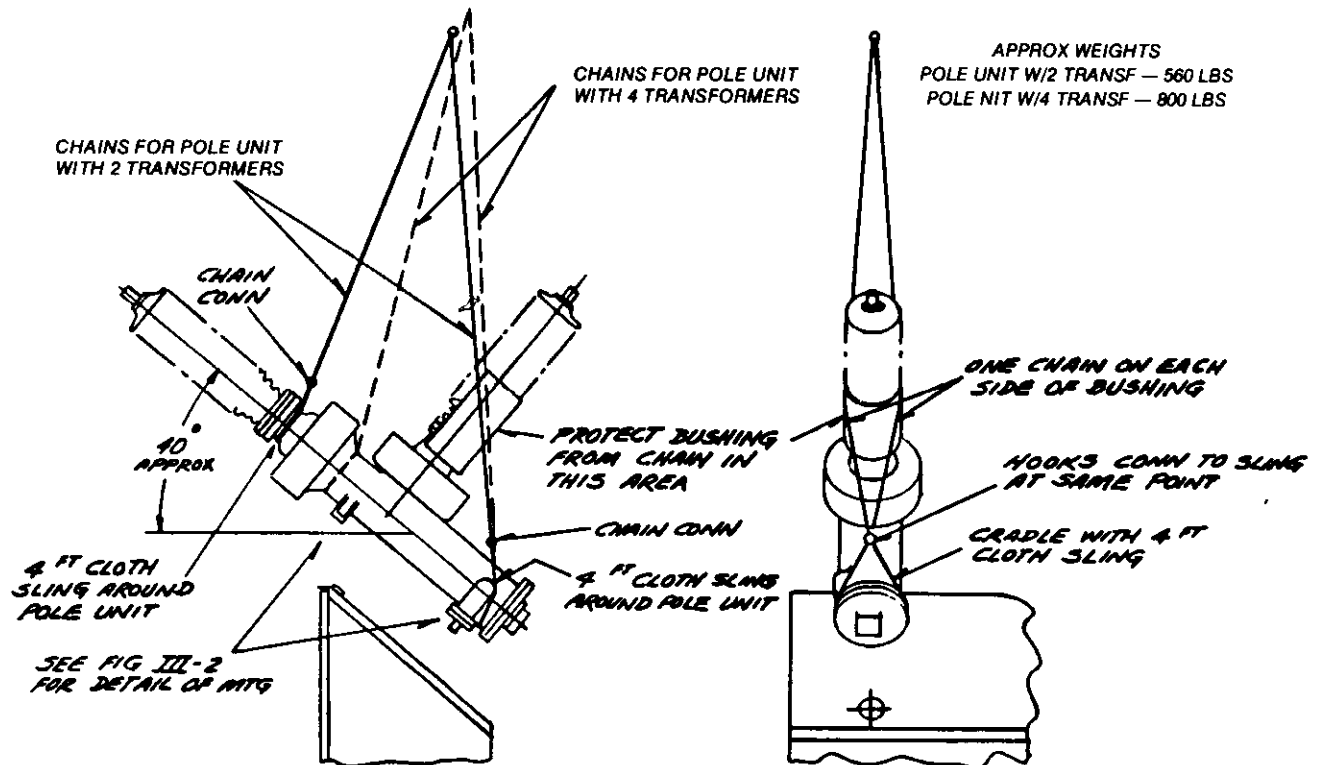

Figure 3 — Lifting of Pole Unit.
22. Fasten Phase 3 pole unit mounting foot to housing with two .500"-13 bolts and .500" lockwashers. (See Figure 2C, page 118 and Figure 3, page 75 for mounting location.) Remove aligning studs and secure with three .375"-16 x .312-18 studs, flat washers, and lockwashers. (See Figure 2B and Figure III-2C, page 119 for details and torque values.)